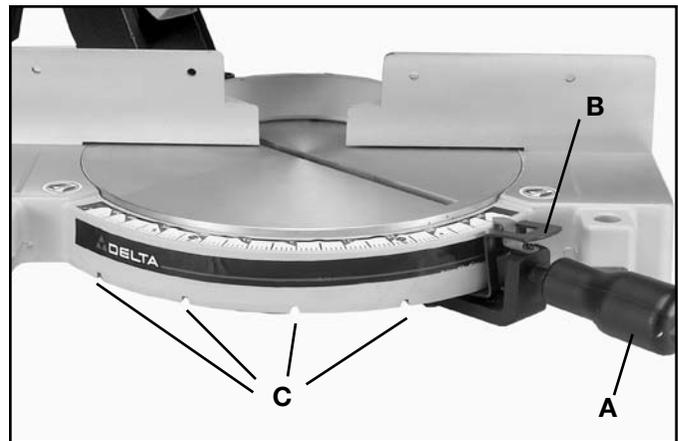

Fig. 14
Your miter saw will cut any angle from a straight 90 degree cut to 47 degrees right and left. Simply loosen lock handle (A) Fig. 14, one or two turns, depress index lever (B) and move the control arm to the desired angle. THEN TIGHTEN LOCK HANDLE (A).
The miter saw is equipped with positive stops at the 0, 22-1/2 and 45 degree right and left positions. Simply loosen lock handle (A) Fig. 14, and move the control arm until the bottom of the index lever (B) engages into one of the positive stops, four of which are shown at (C). THEN TIGHTEN LOCK HANDLE (A). To disengage the positive stop, depress index lever (B).
IMPORTANT: ALWAYS TIGHTEN LOCK HANDLE (A) FIG. 14, BEFORE CUTTING.